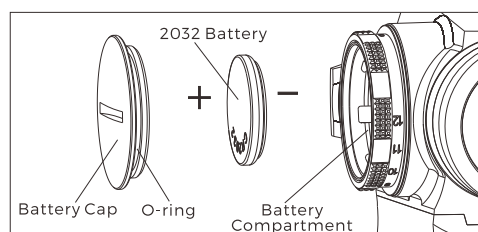

Fig3
3. Please see Fig 3 for battery installation and replacement:
- 2) Remove the old battery if applicable. Install a new battery with the POSITIVE side facing outward (Fig.3).